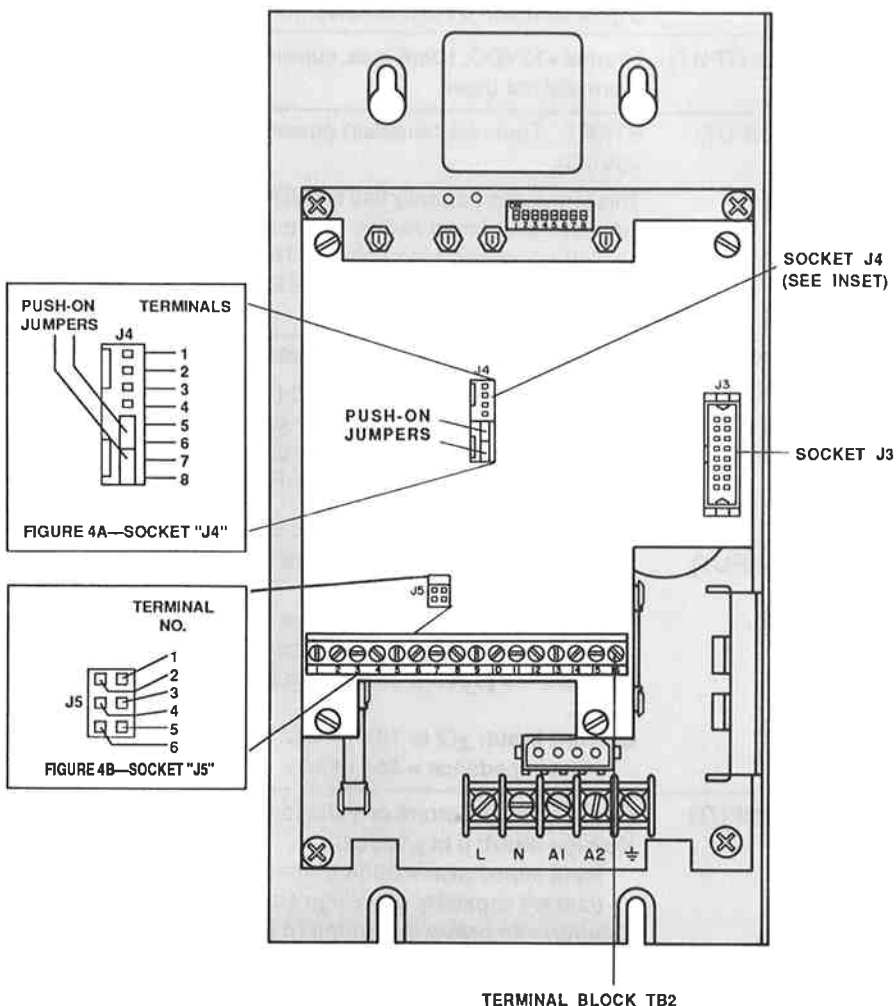

Figure 4
Position the control in front of you as shown in **Fig. 4** and locate socket **J4**. **Terminals 5 and 6** and **terminals 7 and 8** of **J4** should be connected by two **jumper**s (push-on plastic caps, shown in **Fig. 4**).
The 16-position "I/O" terminal block **TB2** on the Analog Interface Board (shown in **Fig. 4**) is used for connecting external inputs and outputs (I/O) to the Analog Board. (Connections between the Analog Board and the Driver Board and/or the Electronic F-B-R Board are **not** made on **TB2**.) The terminals are numbered 1 through 16 on the I/O terminal block, and the function of each "I/O" is described in **Fig. 5**.
- 2. Locate connector **J5** on the Analog Interface Board shown in **Fig. 4**.
Connect a "normally closed momentary contact" switch between terminals **TB2-2** (signal common) and **TB2-4** (the START input) on the Analog Interface Board (see **Figures 4 and 5**). This is the "START" switch. Next, connect a "normally closed momentary contact" switch between **TB2-2** and the STOP input **TB2-5** (see **Figures 4 and 5**). This is the "STOP" switch.